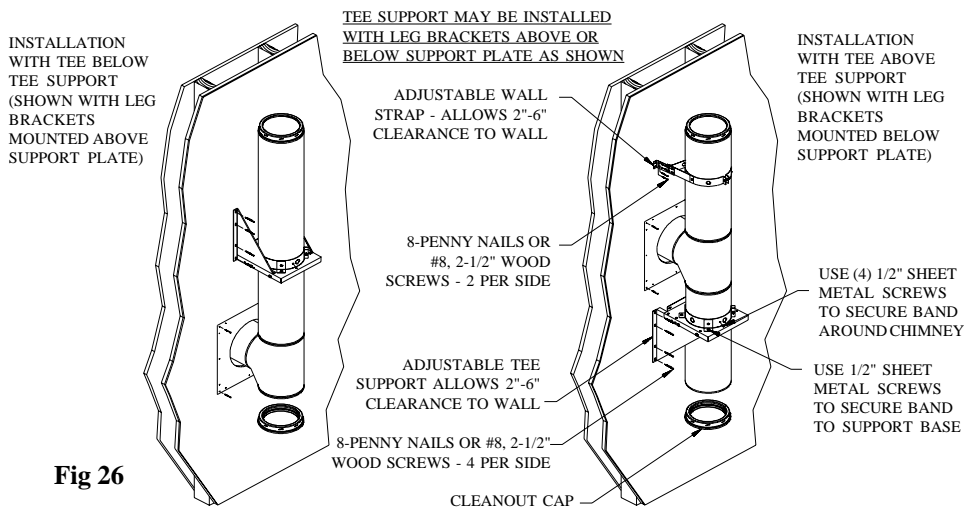

Fig 26
4. Install Tee Support: Install the Tee Support on the outside wall. Position Tee Support so that the chimney Tee will be centered inside the Wall Thimble (Figs 24, 25, & 26). The Tee Support may be installed either above the Tee or below the Tee as seen in Figure 26. Important: Verify that Tee Support is level, and secure the leg brackets of the Tee Support to the wall using (4) #8, 2-1/2" screws for each side. Slide support base over leg brackets to adjust for desired clearance to wall, and secure by tightening bolts. (Figs 26 & 27).
chimney section at proper height to insure that Tee is centered through Wall Thimble (Fig 25 & 26). Use the 1/2" sheet metal screws provided to insure a tight connection between support band and chimney section. Connect support band to support base using the 1/2" sheet metal screws provided (Fig 26). Twist lock Tee Cap into bottom of Chimney Cleanout section.